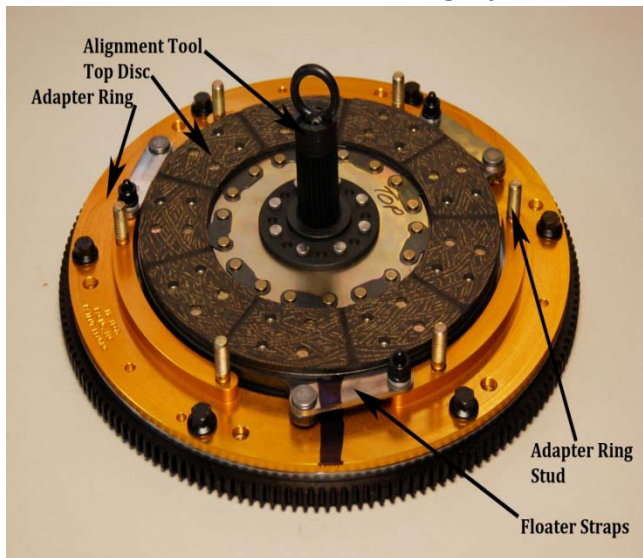

Figure 5
- 6) 4.6L and 5.4L Ford Modular engines require the installation of the supplied dowel pins (3) into the factory flywheel. GM LS engines require the installation of 2 of the supplied dowel pins into the factory flywheel. Place adapter ring on flywheel, with the floater attached, using OEM pressure plate bolts. **(Some kits are supplied with new bolts for attaching adapter ring. In these cases use these bolts as they provide necessary clearance.) (Do not use LocTite!)** Do not add any washers to any locations if they were not present with the McLeod clutch assembly! Torque these bolts to factory specs. Note: If the floater was removed from the adapter ring re-torque all 5/16” nuts to 25 ft/lbs.
- 8) Install the top disc using the alignment tool and be certain it fully engages the pilot bearing to correctly center the discs. Figure 5